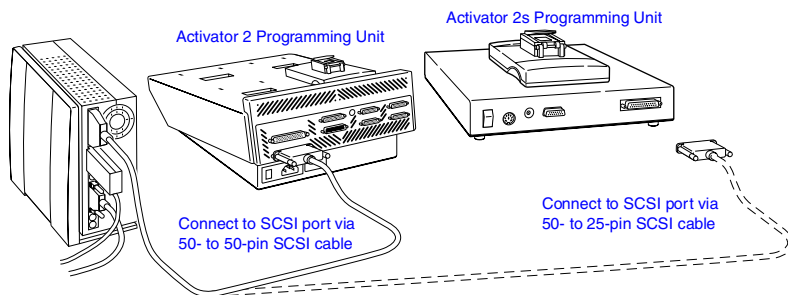

Figure 3-1. Activator 2 and 2s Workstation Connections
4. **Connect the Activator to the workstation using the supplied SCSI cable.** Connect one end of the cable to a SCSI connector on the Activator rear panel (you can use either connector on the Activator 2) and tighten the locking screws. Connect the other end of the cable to the SCSI connector of the workstation and tighten the locking screws or make sure the micro-miniature SCSI connector has snapped into place. See Figure 3-1 on page 20 for the location of the SCSI connectors.